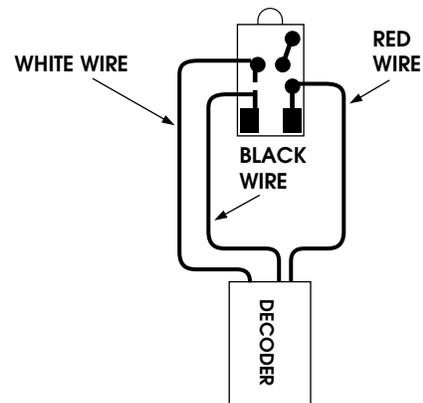

Fig. 3
■ Attach the BLACK and RED wires as shown (Fig. 3). Solder WHITE wire to front light board.